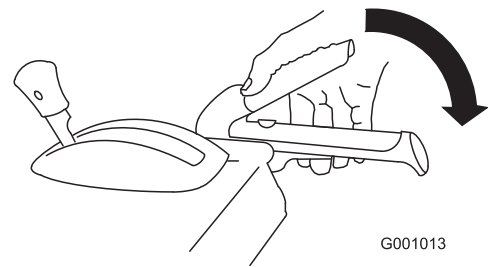

Figure 32
1. To engage the auger/ impeller drive, squeeze the right hand (auger/ impeller) lever to the handgrip (Figure 32).